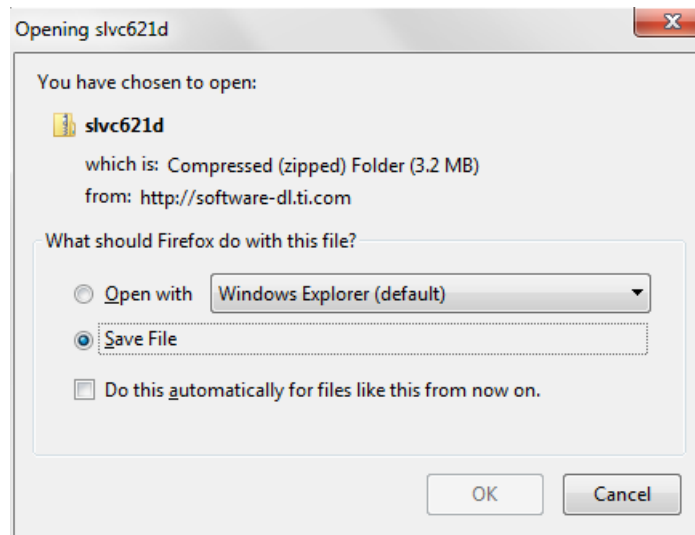

Figure 16. TPS6598x Configuration Tool Download
5. Save the file, as shown in Figure 16.